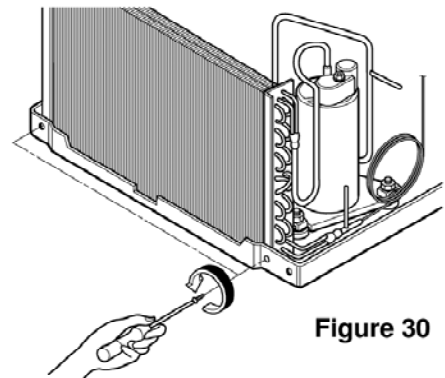

Figure 30
3. Remove 2 screws which fasten the condenser. (See Figure 30)